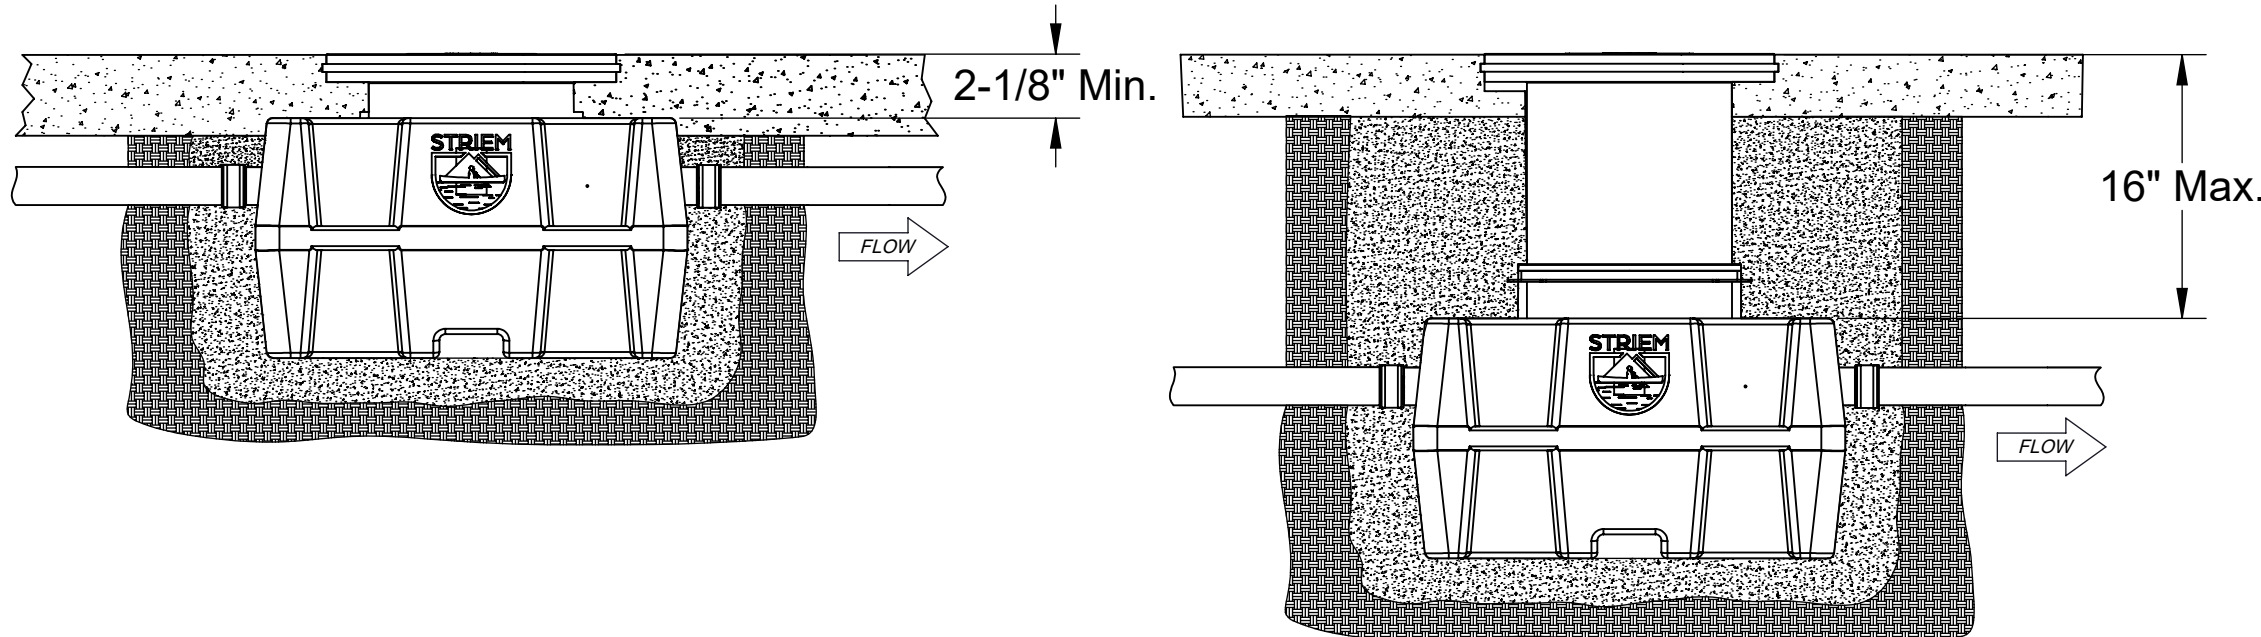

Figure 5
- If the unit is to be buried, you will need a riser kit (sold separately). The 16 Series TeleGlide Riser System for these models allows riser heights from 2-1/8" above standard unit up to 16". Only ONE riser may be used per base unit to allow sufficient access to internal serviceable components. See Figure 5.